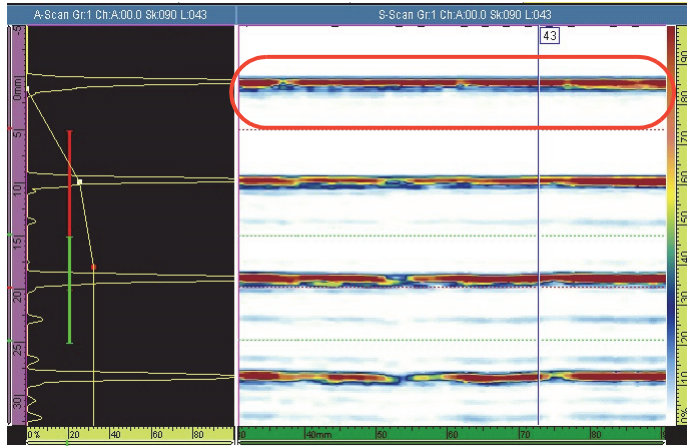

Figure 4-1 An example S-scan display free of bubbles
5. If necessary, lift the scanner, wipe any bubbles from the probe using a finger, and repeat these motions until all bubbles are cleared (see Figure 4-1 on page 38).